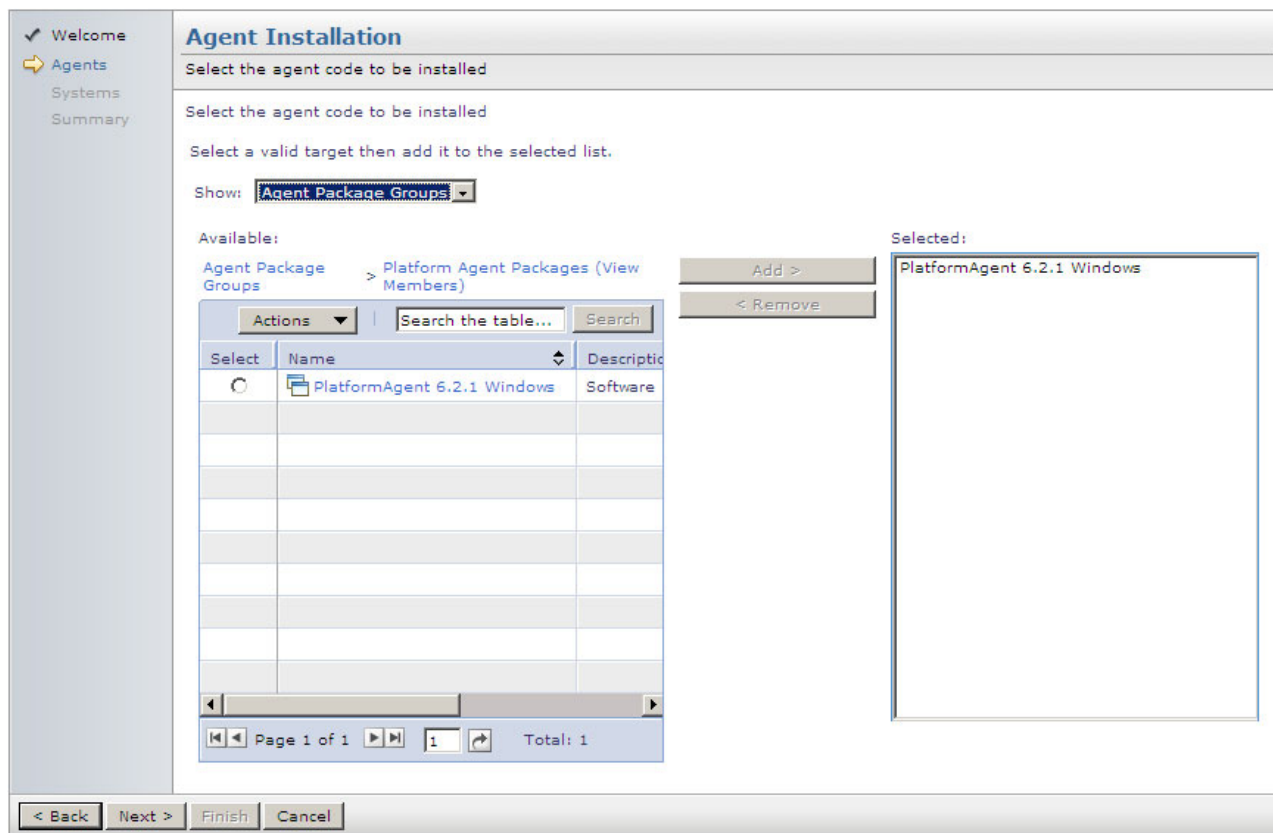

Figure 9-28 Platform agent selection pane
15. Click the **Platform Agent Packages** group in the left pane and select the platform agent package that is relevant to your operating system. For Linux and VMware operating systems, select the PlatformAgent 6.2.1 Linux package. In this example, a Windows-based server was used; therefore, we selected the **PlatformAgent 6.2.1 Windows** package by clicking the radio button next to the agent and clicking **Add**. The selection options look like Figure 9-28 on page 476.